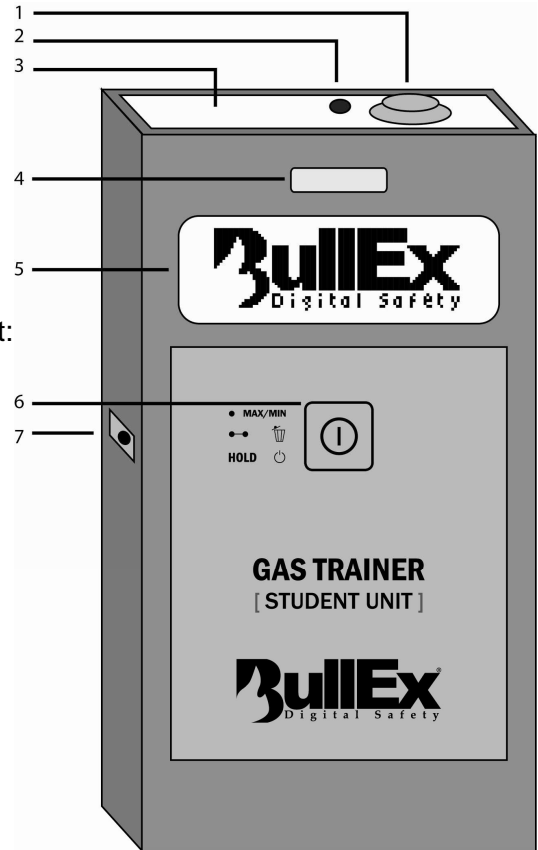

figure 3.3: Controls of the Student Unit
- Press the power button (6) briefly.
The device will switch itself on and give a short optical signal (3,4) and a short beep. The device will start up and shortly show the BullEx logo on the display (5) (figure 3.3).